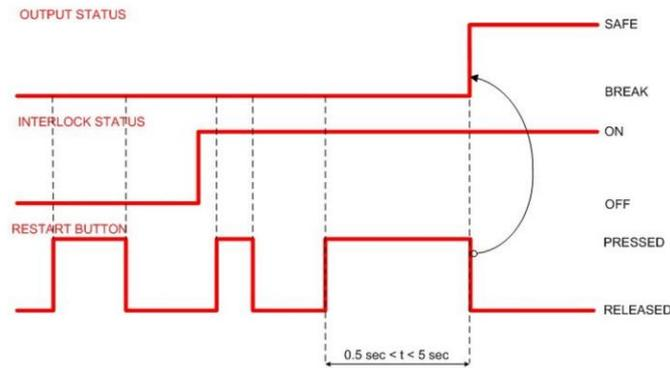

Fig 45 - Manual Restart timing
- **Manual Restart**, After activation, ESPE resets to Normal Operation only once the RESTART function has been activated (cfr. **Fig 45 - page 43**) and provided that the object has been removed from the controlled area.